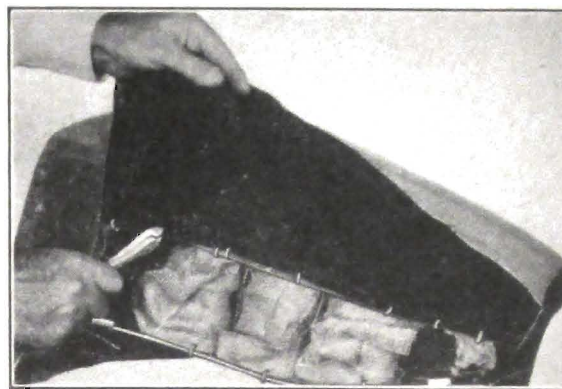

Fig. 1-81. Front Seat Cushion Trim—Attachment
1. Remove hog-rings, see Fig. 1-81, holding outer cushion cover to the spring assembly along the sides, front and back.